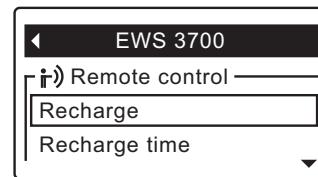

FIG. 62
2. Press the remote's SELECT (○) button to display the device menu (See Figure 62).
3. If necessary, press the DOWN (▼) button to scroll through the menu options until **Recharge** is highlighted in a box (See Figure 62).
6. Press the SELECT (○) button. The display will go back to the conditioner/refiner menu (Figure 62).
2. Press the remote’s SELECT (○) button to display the device menu (See Figure 62).